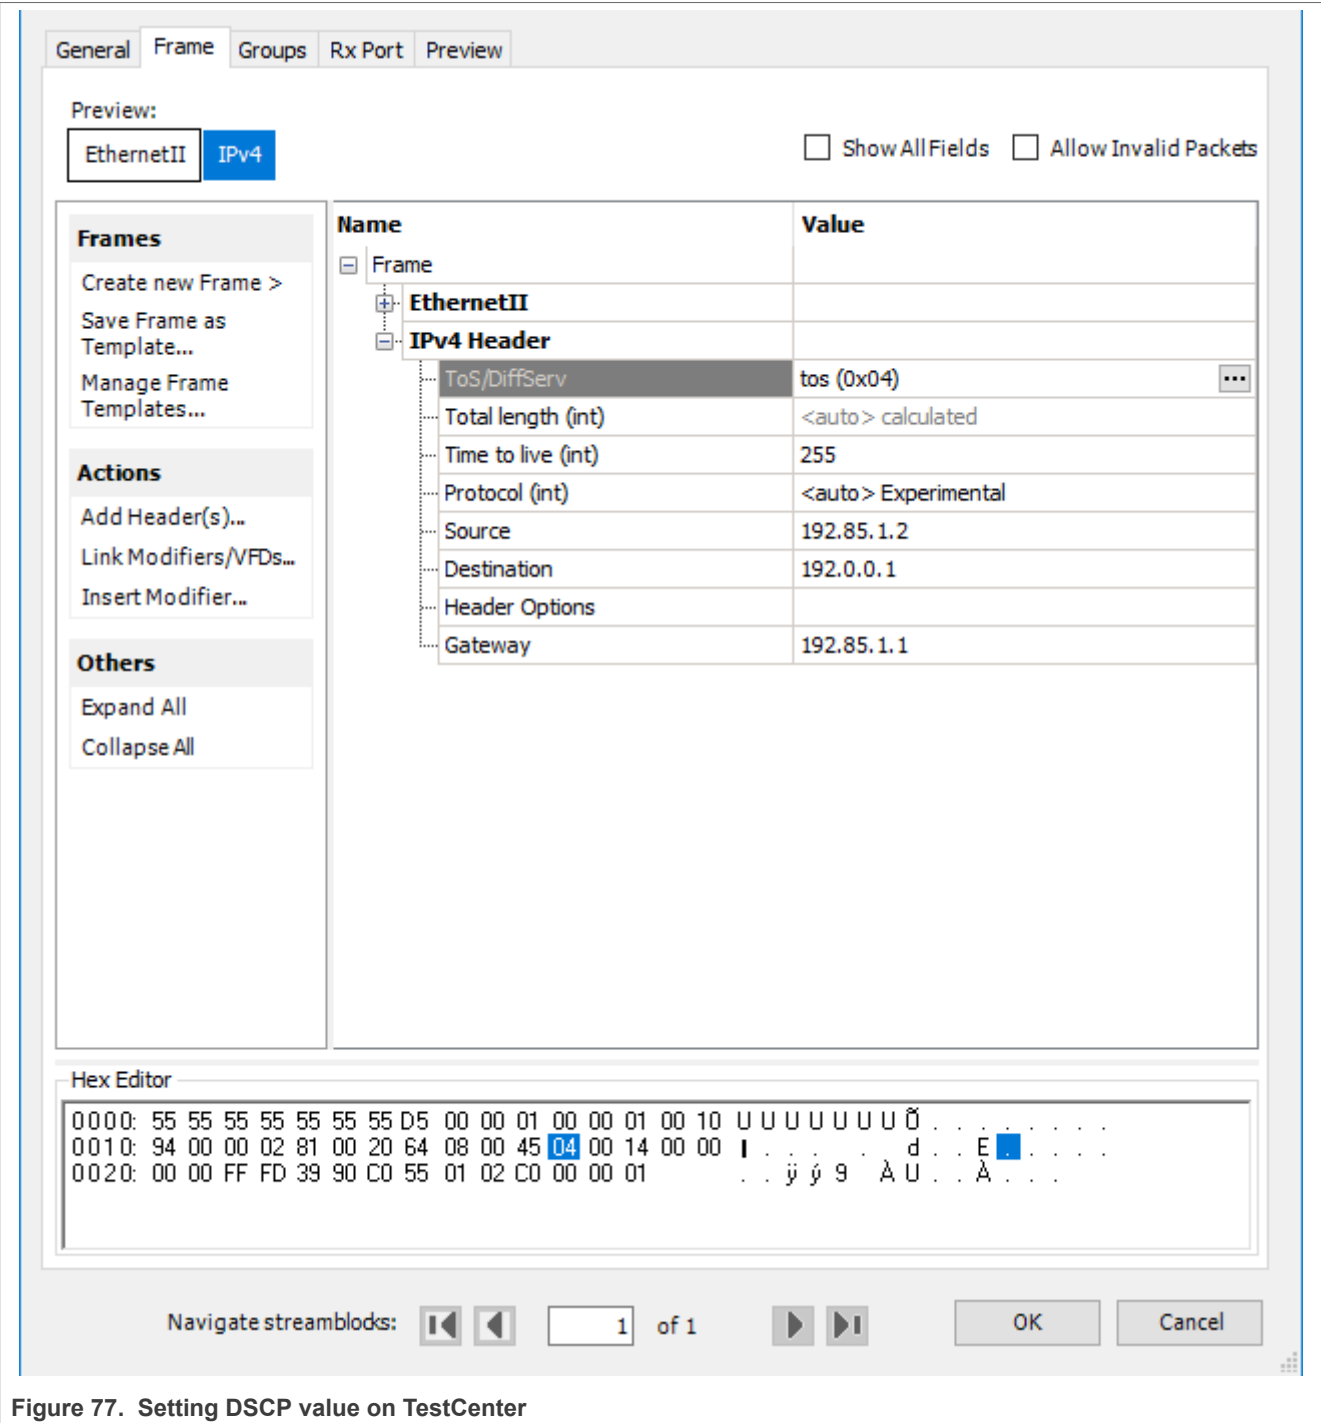

Figure 77. Setting DSCP value on TestCenter
2. Set the DSCP value on TestCenter. DSCP value is the upper six bits of ToS in IP header, set the DSCP value on TestCenter as shown in Figure 77.